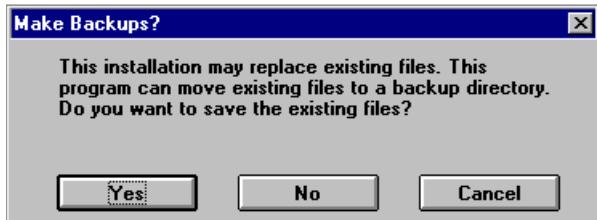

FIGURE 36. TabPro Backups Dialog
- 8.69 Select the 'No' button on the 'Make Backups' dialog. See Figure 36.